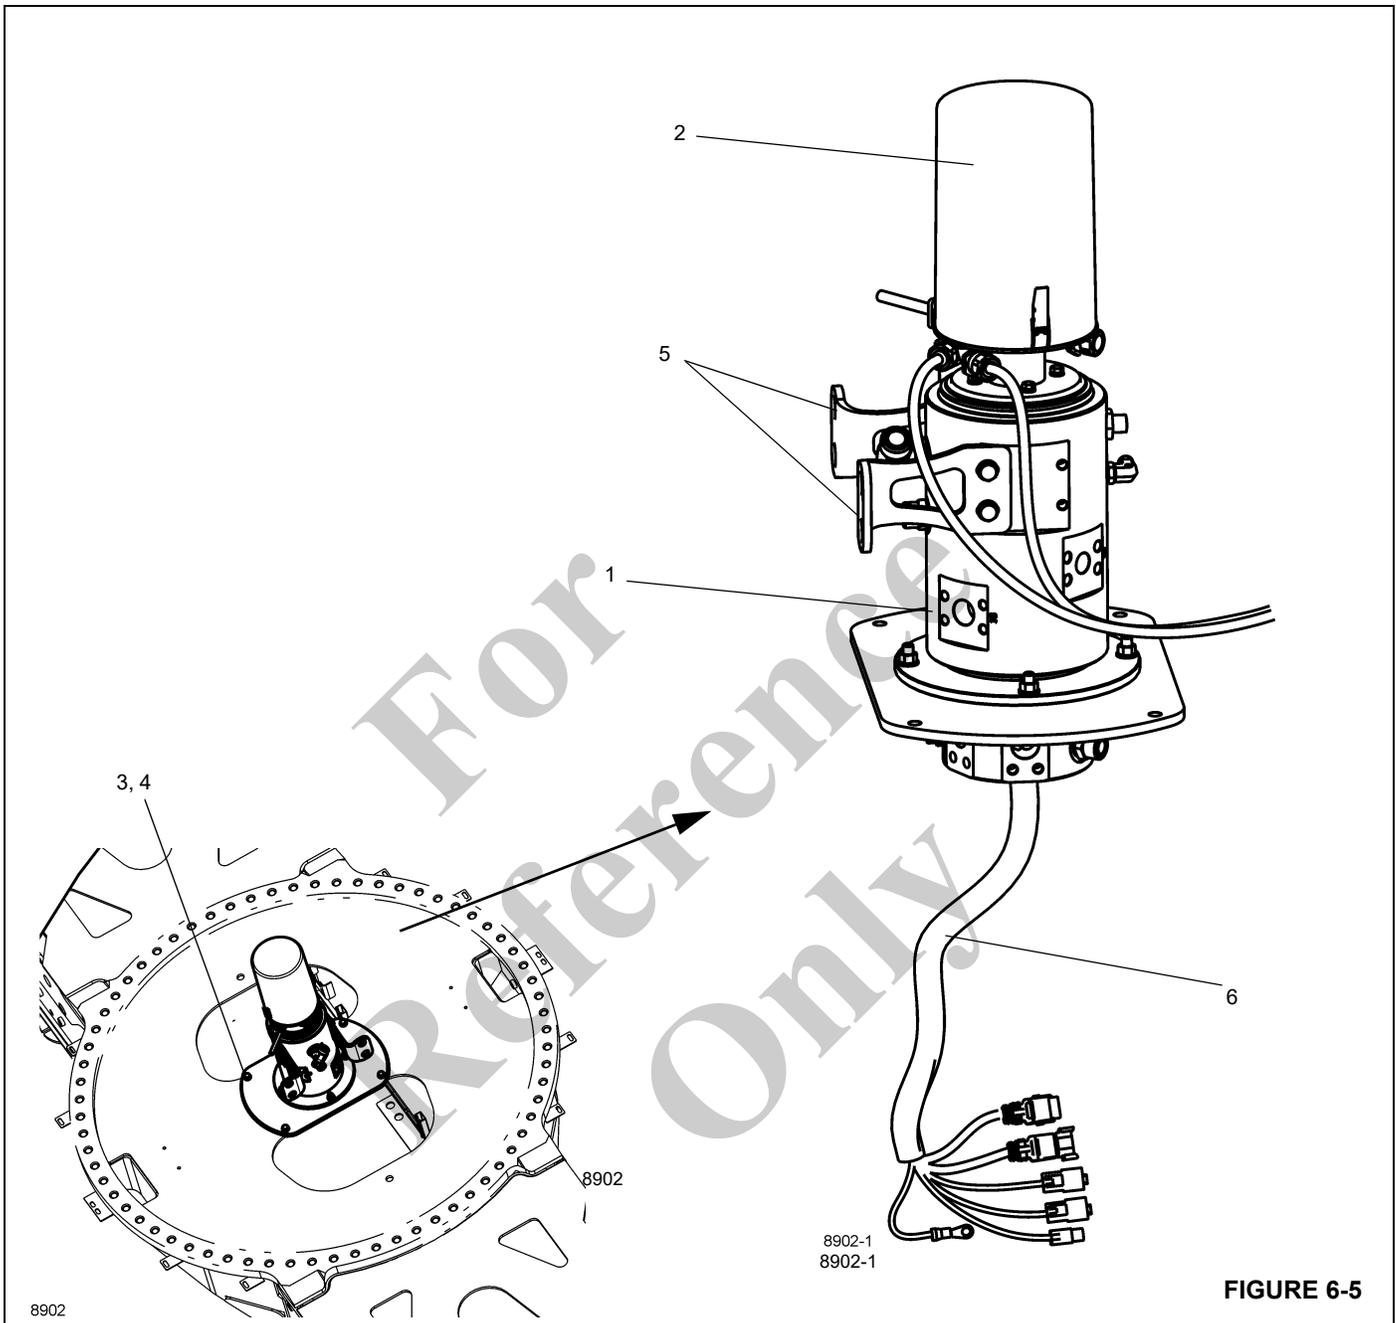

FIGURE 6-5
The swivel assembly consists of a 6 port hydraulic, 2 port air conditioning swivel and 20 conductor slip ring assembly (2) (Figure 6-5). Solid connections cannot be used to transfer oil, heater hot water and electricity between the carrier and superstructure due to the continuous 360 degree swing. The use of swivels efficiently accomplishes this function.
The barrel portion of the hydraulic swivel is attached to the turntable base plate by four bolts (3), (Figure 6-5) washers (4), (Figure 6-5) and bushings (6), (Figure 6-5), which connect to mounting lugs (7) on the case. The spool portion of the swivel rides upon a thrust ring at the top of the swivel case. The spool portion is held stationary with the carrier by bolts, and bolt retainer plates attached to the swivel retainer plate (9) which engages the carrier frame lugs with bolts and